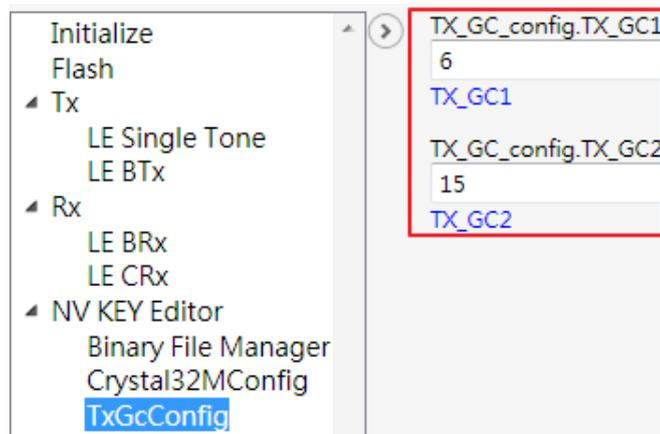

Figure 13. TX GC setting
- 4) Click the “TxGcConfig” button to set the GC value parameters, as shown in Figure 13.